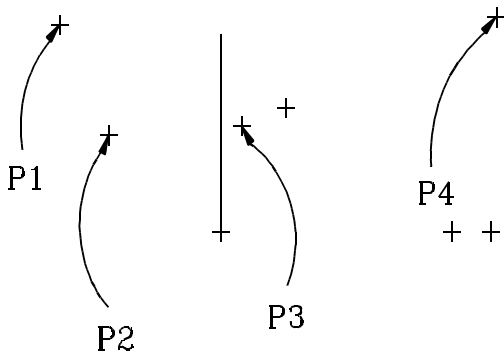

Figure 2:
4. In the front view, click on points P1, P2, P3, and P4 (the violet points), as shown in Figure 2.